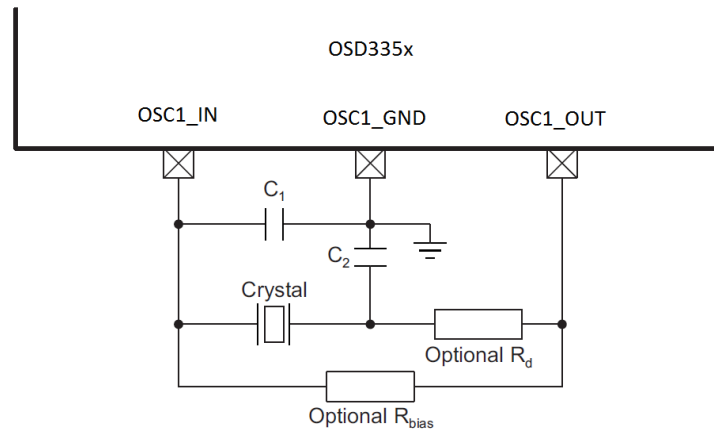

Figure 47 Crystal Oscillator circuit for OSC1
- The crystal oscillator circuit for OSC1 is shown in **Figure 47** and is the same as the oscillator circuit for OSC0. For the reference design, we do not need either R_{bias} or R_d since OSC1 has an internal resistor. However, as discussed above, we have placed a footprint for R_{bias} but not for R_d to give us the flexibility to adjust the crystal performance without increasing the design cost. For recommended crystal circuit component values for OSC1, check **OSC1 Crystal Circuit Requirements** table in the **AM335x datasheet**.